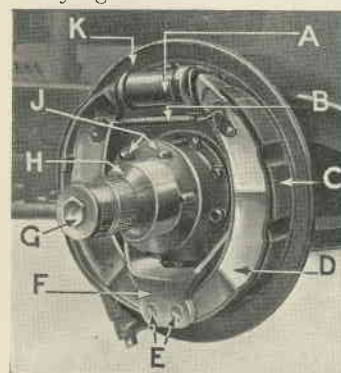

Fig. 21.
To remove the shoes, release the brake return spring (see "B," Fig. 21), then remove the nuts securing the brake shoe fulcrums "E" which allow the fulcrums themselves to be withdrawn. The shoes can then be pulled clear of the hydraulic braking cylinders "A." Take notice of the lining fixing before removing and endeavour to fix similarly. It is essential that the new lining should fit firmly on the shoe and there should be no sign of bulging.
Rear Wheel Brake, with wheel and brake drum removed. The details are similar to the Front Brake, shown in Fig. 21, with the exception of (L), which are the toggle arms operated by the Hand Brake Lever. (M) is the armoured hydraulic brake cable.
The front hubs are fitted with roller bearings designed to take both radial and thrust loads. With the special type of bearing used no adjustment is necessary. The lubrication is provided by removing the inner hub end caps (G) Fig. 21, and the hubs should be kept about half full with **Vacuum Mobilgrease No. 4**. The supply of grease should be replenished when required, usually about every 3,000 miles. Under no circumstances must the hubs be more than half full.